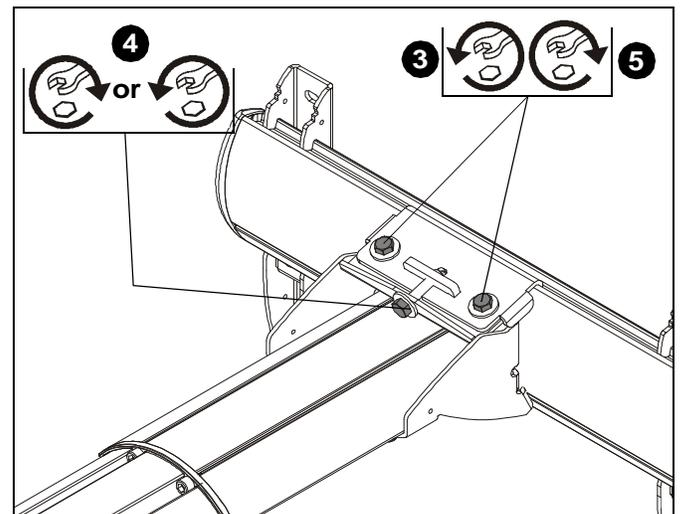

Figure 30
3. Loosen two bolts on either side of pitch adjustment screw. (See Figure 30)
- Turn **counterclockwise** to lower mounting level. (See Figure 30)
5. Tighten two bolts on either side of pitch adjustment screw. (See Figure 30)